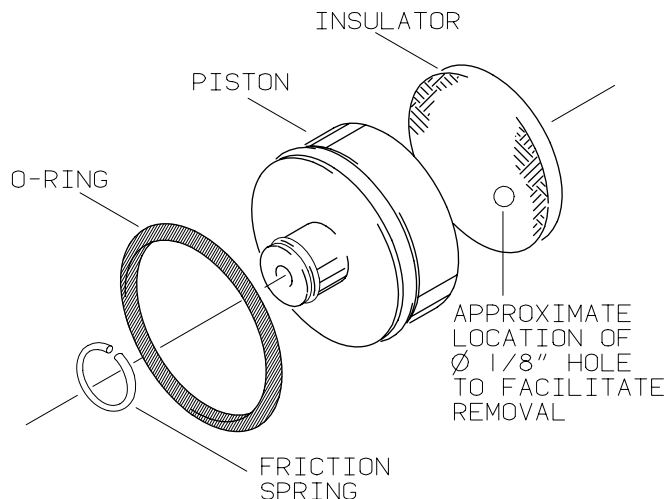

Figure 301 - External Piston Guide
- (f) Remove pistons (7) by injecting air into the ports (15 to 20 psi) [103 to 138 kPa] maximum pressure.
**NOTE:** Some pistons are equipped with a friction spring (drag ring) on the piston tail. It is recommended that this ring not be removed unless it is damaged or corroded. Ref. Figure 301.